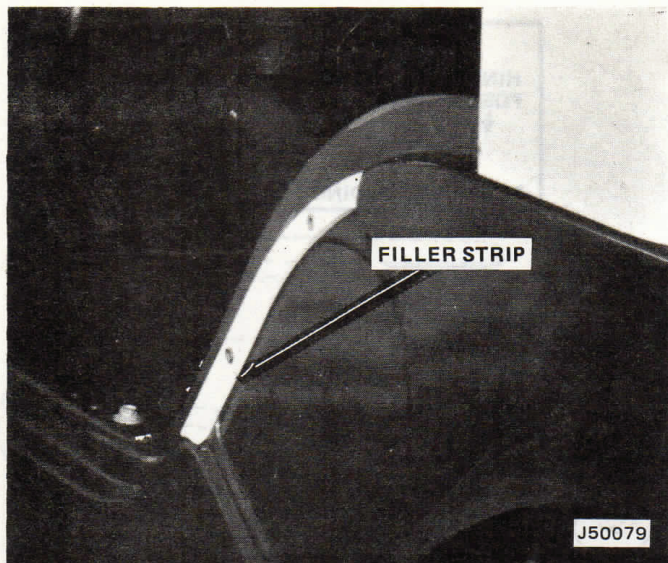

Fig. 2-11 Filler Strip Installed
(1) Position filler strip on body panel (fig. 2-11). Use filler strip as template and mark two hole locations.
(2) Drill 13/64-inch holes through body and attach filler strip with self-tapping screws.